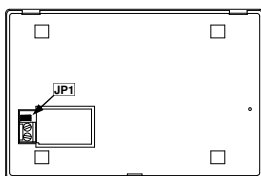
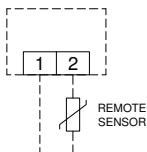

Fig. 4
Fig. 5
4. Insert the wires through the rectangular opening in the wall plate (Fig. 2) following the connection diagram of Fig. 5, to eliminate the possible remote probe. If necessary remove jumper JP1 (Fig. 4), but before doing that read the "INSTALLER CONFIGURATION" paragraph.